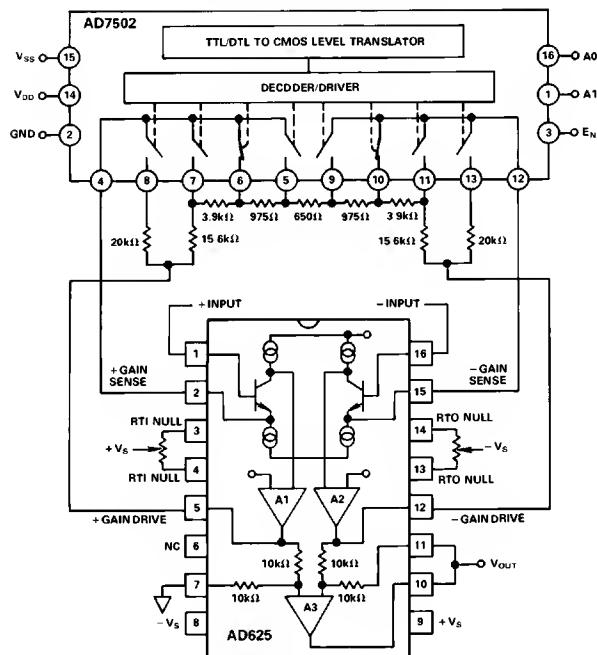

Figure 38. SPGA in a Gain of 16
Figure 38 shows an AD625 based SPGA with possible gains of 1, 4, 16, 64. R_G equals the resistance between the gain sense lines (Pins 2 and 15) of the AD625. In Figure 38, R_G equals the sum of the two $975\ \Omega$ resistors and the $650\ \Omega$ resistor, or $2600\ \Omega$. R_F equals the resistance between the gain sense and the gain drive pins (Pins 12 and 15, or Pins 2 and 5), that is R_F equals the $15.6\ k\Omega$ resistor plus the $3.9\ k\Omega$ resistor, or $19.5\ k\Omega$. The gain, therefore equals:
can be used to calculate the necessary feedback resistors for any set of gains. This formula yields a network with a total resistance of 40 kΩ. A dummy variable (j) serves as a counter to keep a running total of the preceding feedback resistors. To illustrate how the formula can be applied, an example similar to the calculation used for the resistor network in Figure 38 is examined below.
- 2) Before making any calculations it is advised to draw a resistor network similar to the network in Figure 41. The network will have $(2 \times M) + 1$ resistors, where M = number of gains. For Figure 38 $M = 3$ (4, 16, 64), therefore, the resistor string will have 7 resistors (plus the two 20 kΩ "side" resistors for unity gain).
- 5) If different resistor values are desired, all the resistors in the network can be scaled by some convenient factor. However, raising the impedance will increase the RTO errors, lowering the total network resistance below 20 kΩ can result in amplifier instability. More information on this phenomenon is given in the RPGA section of the data sheet. The scale factor will not affect the unity gain feedback resistors. The resistor network in Figure 38 has a scaling factor of $650/625 = 1.04$, if this factor is used on R_{F_1} , R_{F_2} , R_{F_3} , and R_G , then the resistor values will match exactly.